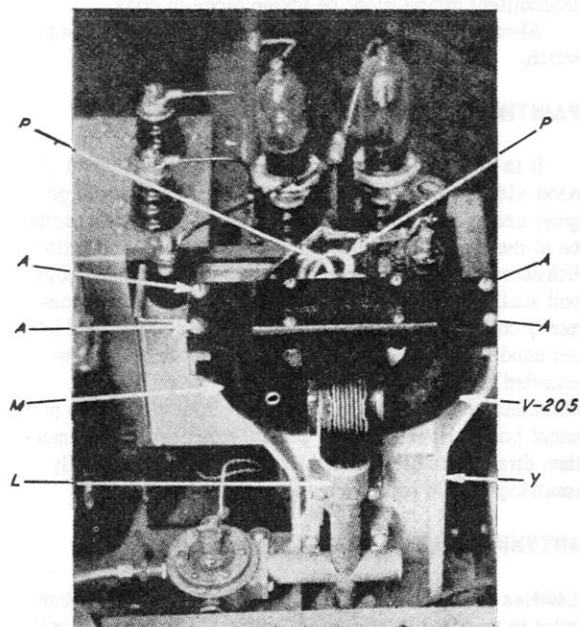
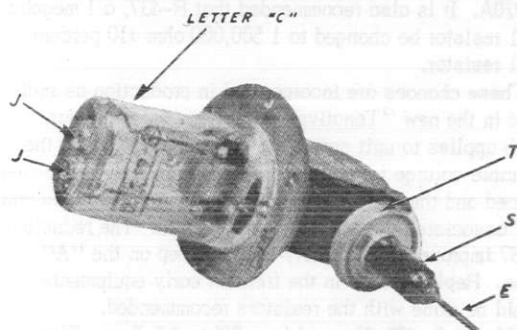

FIGURE 1.—Top view of magnetron assembly.
FIGURE 4.—Magnetron V-205.
(1) Remove the four magnet mounting screws A which secure the magnet M to the yoke Y, and lift the magnet straight up. (See fig. 1.)
(2) Set the magnet carefully to one side where it will not attract any iron or steel particles, and place a keeper between the pole pieces.
CAUTION: Care must be exercised in handling this tube, as the glass seal S of the output probe E is quite easily damaged (see fig. 4). If available, it is advisable to install the bakelite protector on the output probe threaded portion T (see fig. 4).
(1) Lower it into the top of the yoke Y in such a way that the nameplate may be read from a position facing the front of the unit (see fig. 1). Some magnets are marked with a red letter "N" on one of the pole pieces. This pole piece should be placed against that side of the magnetron which is marked with a letter "C" on the glass protective cover (see fig. 4).
(2) Start the four magnet mounting screws A, but do not fully tighten them (see fig. 1).